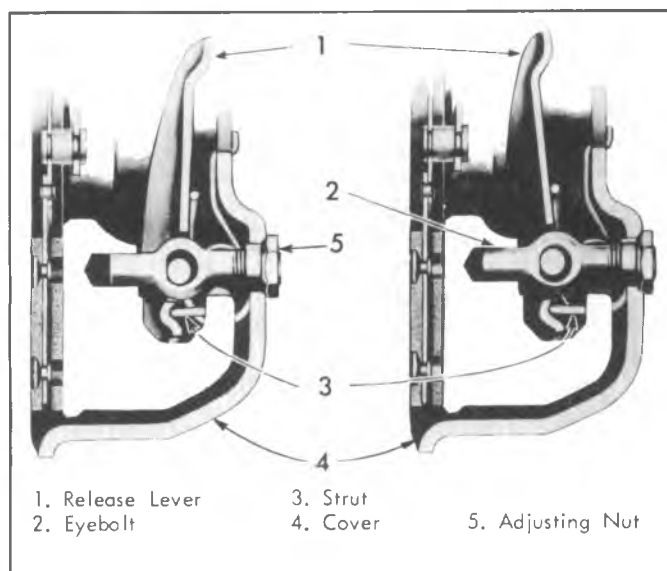

Fig. 7C-5--Release Lever, Coil Spring Type
the release levers, (refer to item 1 in Fig. 7C-5). Each release lever is pivoted on a floating pin which remains stationary in the lever and rolls across a short flat portion of the enlarged hole in the eyebolt (refer to item 2). The outer end of each release lever engages the pressure plate lug by means of a strut (3), which provides knife-edge contact between the outer end of the lever and the lug. The outer ends of the eyebolts extend through holes in the stamped cover (4), and are fitted with adjusting nuts (5) to correctly position the levers.